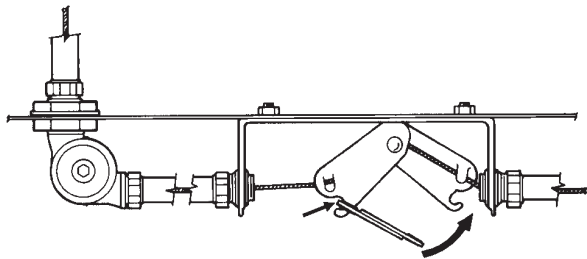

FIGURE 29
- ▶ 8. Hook the fusible link on the ANSUL AUTOMAN or remote release assembly side of the hook assembly, then pull the fusible link to the opposite side and complete the hookup as shown in Figures 29 and 30. The top of the hook assembly must be inside the bracket stiffeners. The hook assembly with the ANSUL fusible link in place must be located toward the terminal detector side of the bracket.